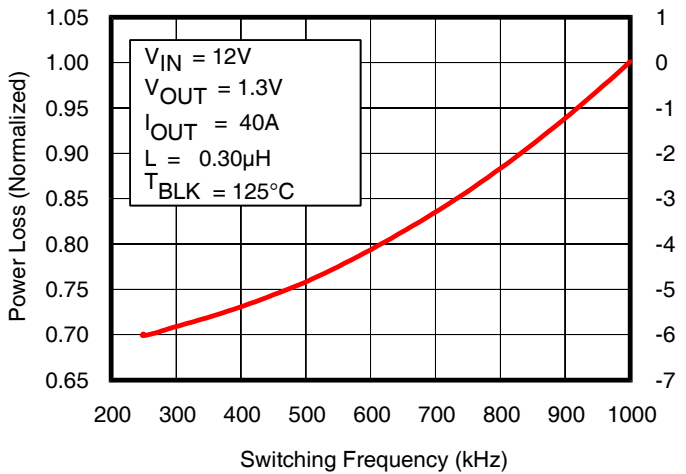

Fig. 5: Normalized Power Loss vs. Frequency
- (Fig. 5) Normalized power loss for frequency  $\approx$  0.94
- (Fig. 5) SOA Temperature Adjustment for frequency  $\approx -1.2^{\circ}\text{C}$